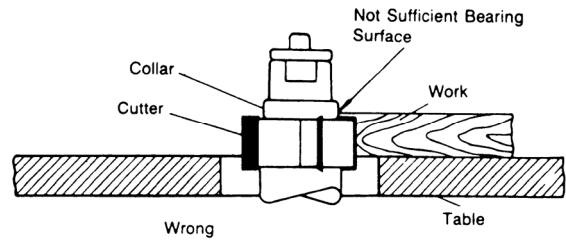
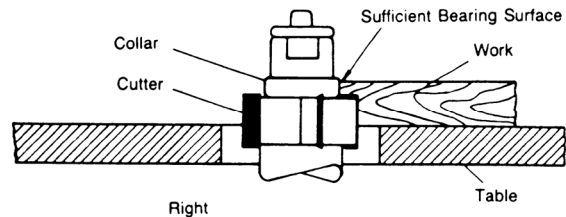

Figure 12
Figure 13
3. A portion of the work's edge must remain untouched by the cutter so that the collar will have sufficient bearing surface. See Figure 12 for an example of insufficient bearing surface. Figure 13 illustrates sufficient bearing surface.